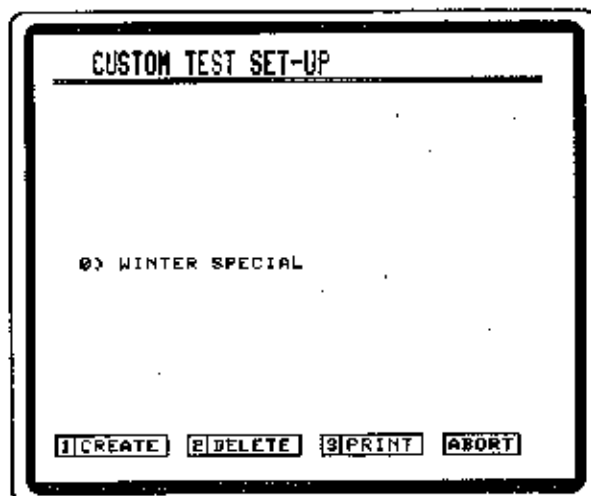

Figure 147
1. From the Custom Test Set-Up screen (see Figure 147), press: